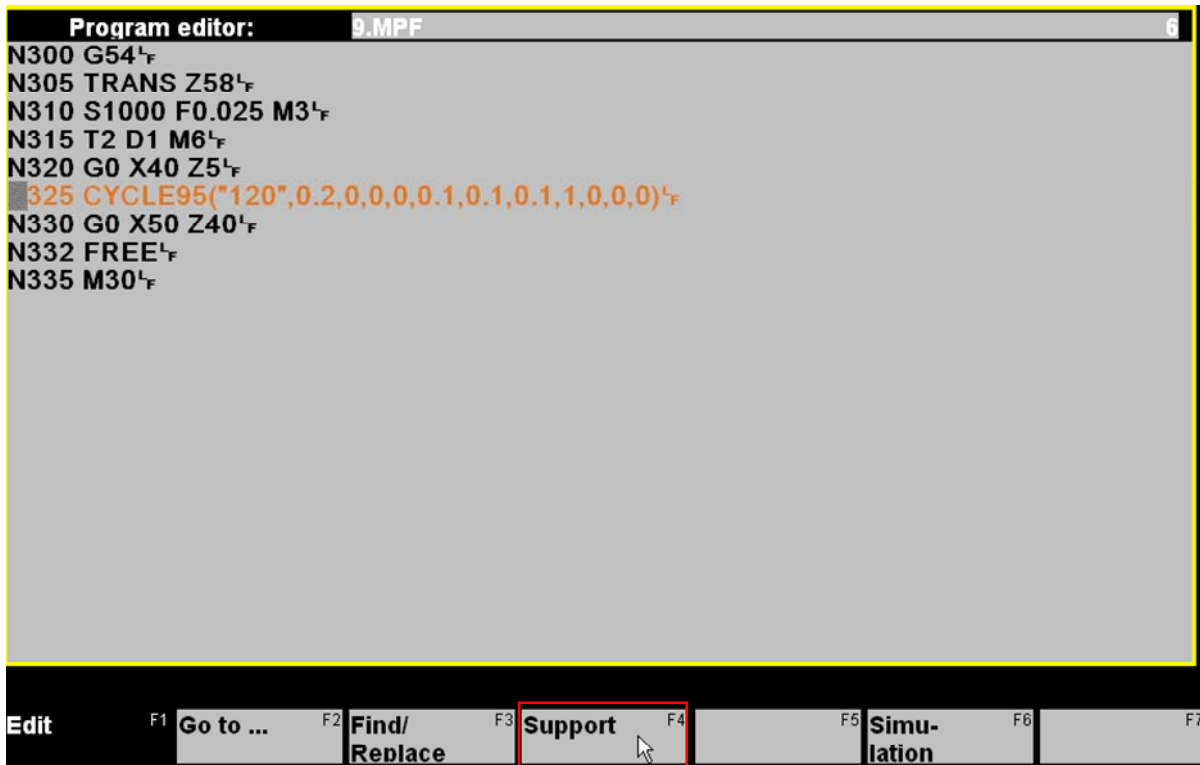

Fig.6.22: Shows the support button in the program editor.
33. Click on “**support**” to recompile cycle 95 as shown in Fig. 6.22